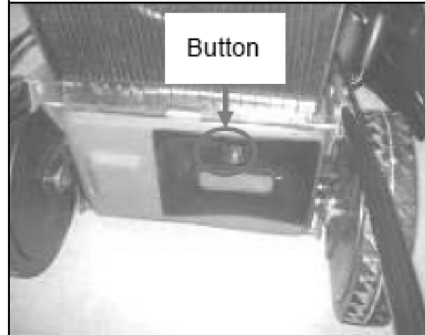

Fig.6A Fig.6B
- two. Push the quilting wedge into the cover. Lock the quilting wedge with the button in the opening of the cover. (Fig.6A/Fig.6B)